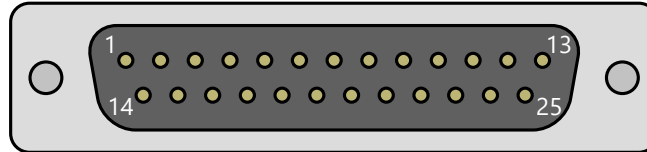
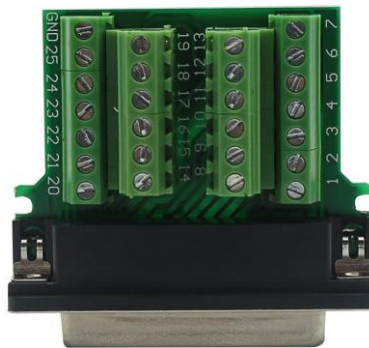

Figure 1: Male DB25 connector pin layout
Figure 2: Male DB25 field splice connector pin layout
Step 2: Hold it so you are looking at the pins with them pointing at you or open the back shell of the DB25 field splice. Orient the connector so the row with 13 pins is on top, now the upper left-hand pin is pin 1. See figure 1 (above) for reference. You may also open the case of the connector if using a screw terminal style connector and reference the pin number marking on the PCB (see figure 2 above).